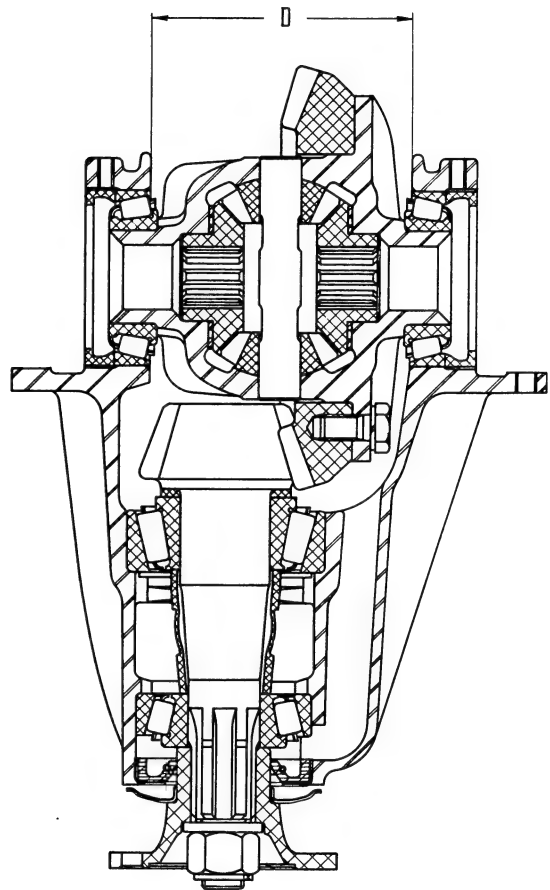

Fig. 141. - Differential case roller bearing preload inspection diagram.
4) Work on bearing adjusters to set a .0031" to .0047" (0.08 to 0.12 mm) pinion-to-ring gear backlash; tighten bearing adjusters until the distance (D, fig. 141) between the carrier caps, measured on top, increases by .0051" (0.13 mm), approximately.